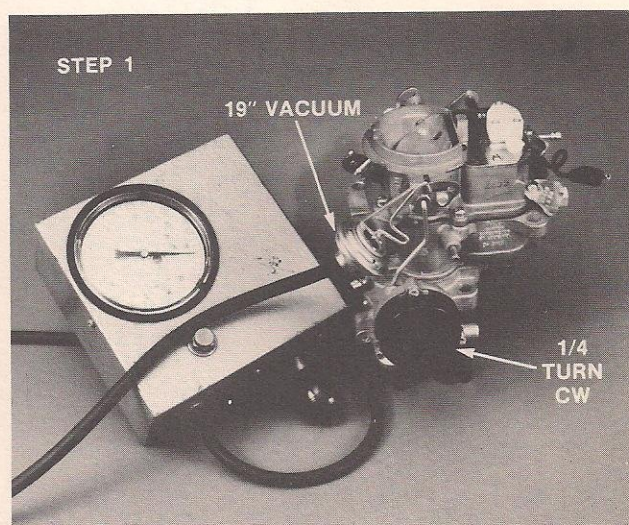

Figure 23, Applying Tension and Vacuum
STEP 1, INITIAL CHOKE CLEARANCE ... SYMPTOMS: TOO RICH, ENGINE LOADS; TOO LEAN, ENGINE DIES -- Start adjusting initial choke clearance by turning the choke cover 1/4 turn clockwise. This applies tension against the choke cover spring. Then apply about 19 inches of vacuum to the diaphragm (figure 23).